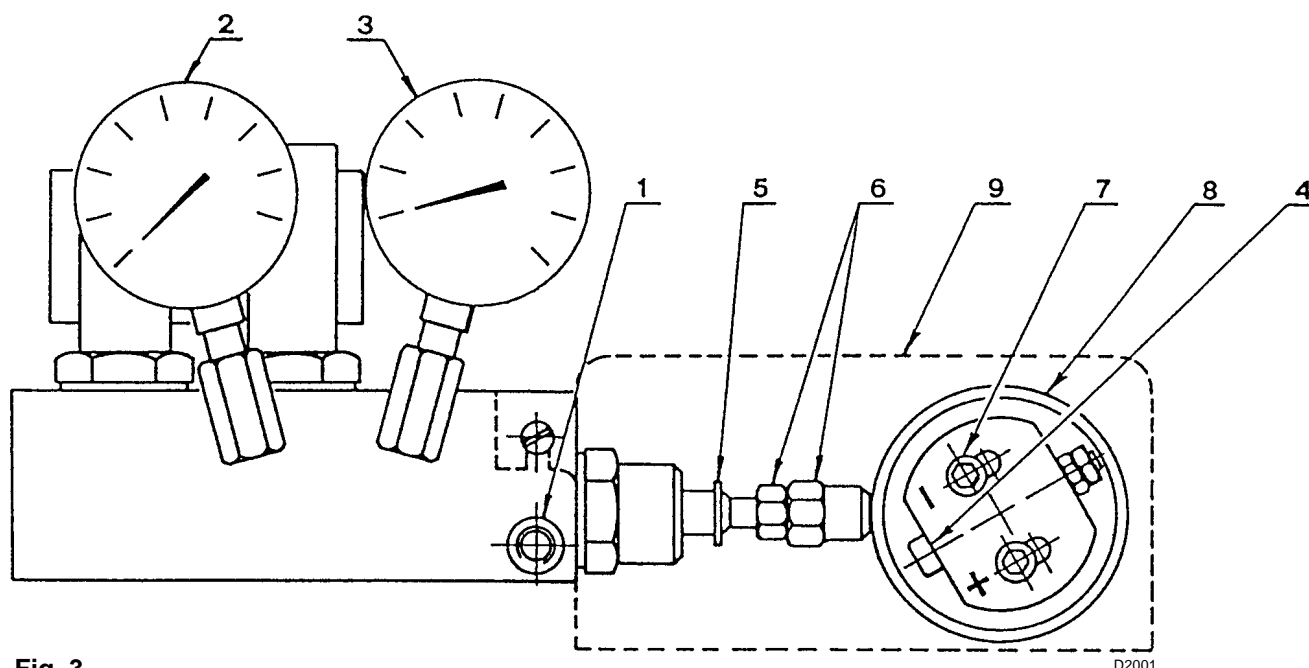

Fig. 3
The variation of the pressure in the return line (manometer 3 fig. 3) modifies the fuel delivery from the nozzle.
- Turn manually and slowly the cam with adjustable profil (1)(fig. 5) firmly connected to the eccentric (8) fig. 3 and check the pressure variation by the manometer (3)(fig. 3).
- The output and the pressure of the nozzle are at minimum when the servomotor is on the position of 20°, while they are at the maximum when the servomotor is positioned on 130°. The fine adjustment of the pressure in the return line could be carried out by changing the setting of the eccentric (8)(fig. 3), of the nut and lock-nut (6)(fig. 3).